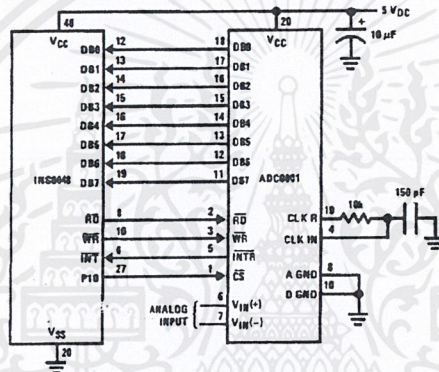

FIGURE 11. INS8048 Interface
The INS8048 interface technique with the ADC0801 series (see Figure 11) is simpler than the 8080A CPU interface. There are 24 I/O lines and three test input lines in the 8048. With these extra I/O lines available, one of the I/O lines (bit 0 of port 1) is used as the chip select signal to the A/D, thus eliminating the use of an external address decoder. Bus control signals  $\overline{RD}$ ,  $\overline{WR}$  and  $\overline{INT}$  of the 8048 are tied directly to the A/D. The 16 converted data words are stored at on-chip RAM locations from 20 to 2F (Hex). The  $\overline{RD}$  and  $\overline{WR}$  signals are generated by reading from and writing into a dummy address, respectively. A sample interface program is shown below.
**SAMPLE PROGRAM FOR FIGURE 11 INS8048 INTERFACE**